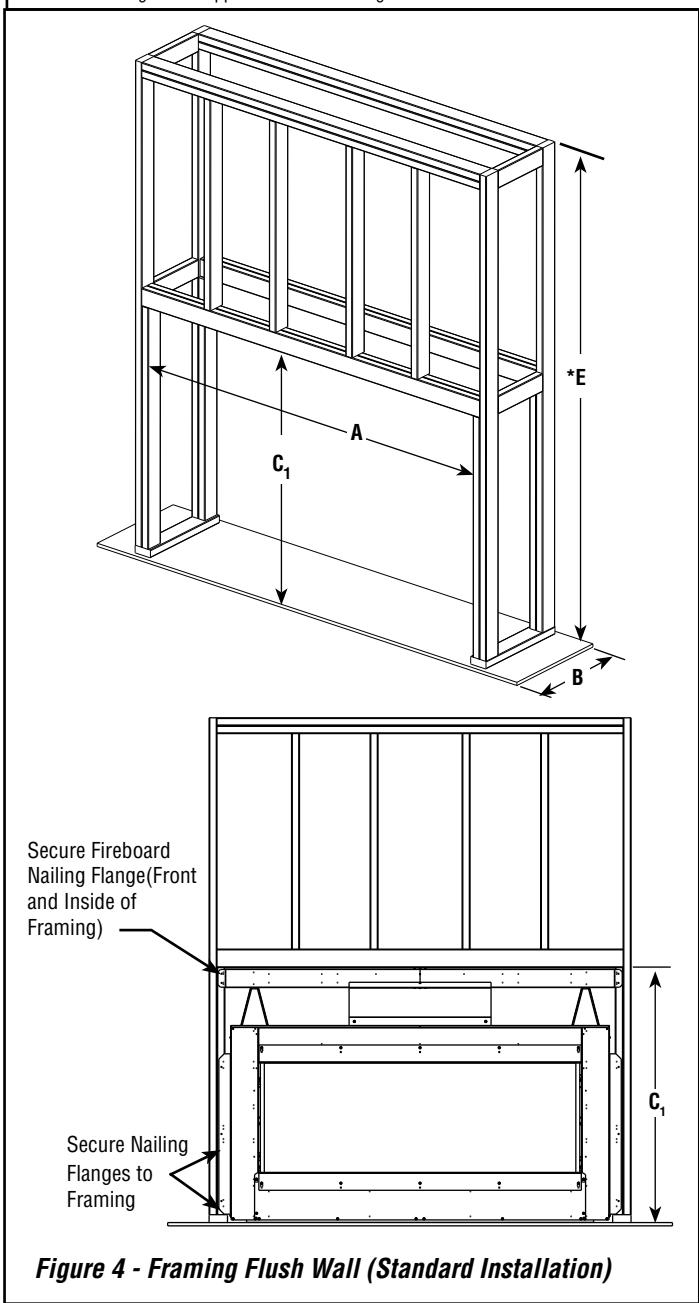

Figure 4 - Framing Flush Wall (Standard Installation)
- Headers may be in direct contact with the top of the nailing flange, maintaining the 11" clearance to the fireplace top, but must not be supported by them or notched to fit around them after self supporting (see **Figure 4**). All construction above the fireplace must be self-supporting. DO NOT use the fireplace for structural support.